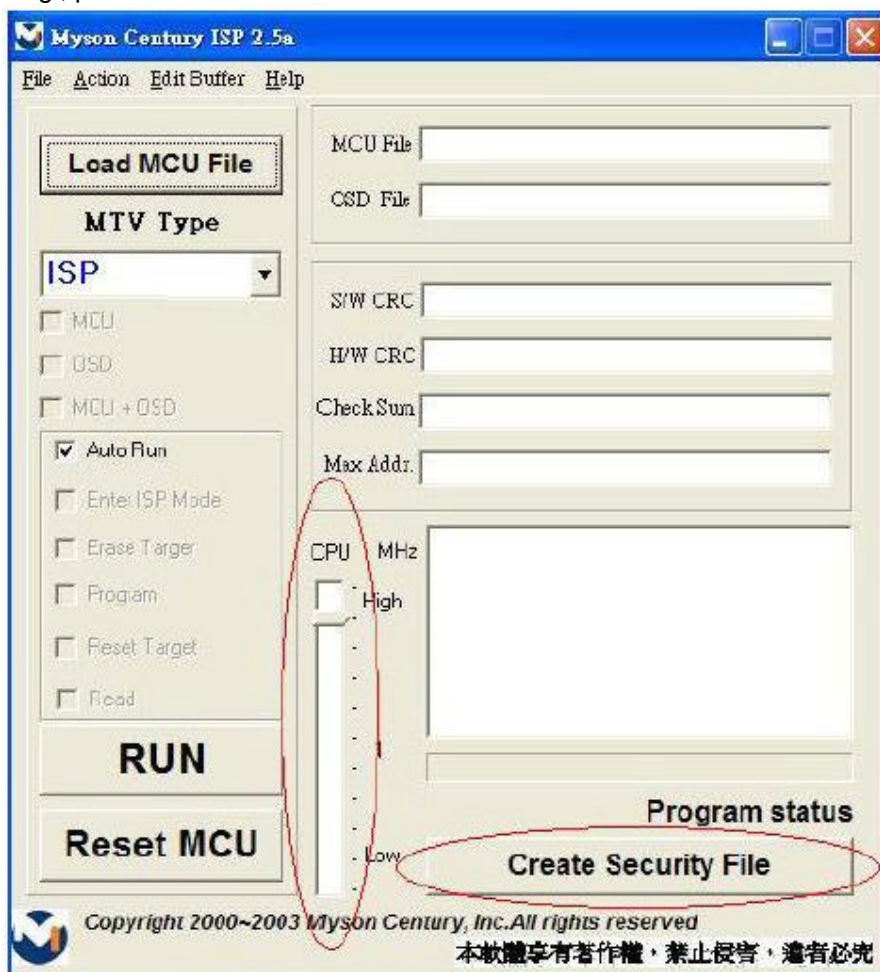

Fig. 2.5
2.5 Fig. 2.5 shows the setting for security code of software ISP . it needs 2 command No. and key in command sequentially for 7C , 4C , 77. The command No. and command must be set by user while coding. About the detailed of setting , please refer to section 6 boot code of ISP .